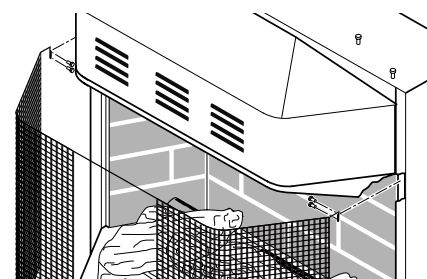
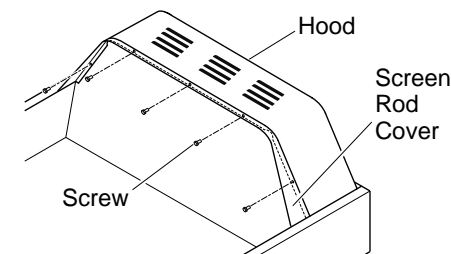
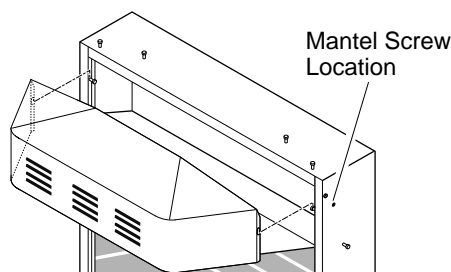

Figure 11 - Removing Screen
Figure 12 - Removing Hood Screws
Figure 13 - Removing Hood
Built-in installation of this fireplace involves installing fireplace into a framed-in enclosure. This makes the front of fireplace flush with wall. If installing a built-in mantel above the fireplace, but you must follow the clearances shown in Figure 11, page 9. Follow the instructions below to install the fireplace in this manner.
2. Remove screen from fireplace by removing screws in each end of screen rod (see Figure 11). Hold screen rod cover while removing five hex head screws underneath hood (see Figure 12). Carefully lift and pull out hood (see Figure 13).
11. Attach remaining two 3" wood screws from hardware pack through openings inside of fireplace sides into the mantel. See Figure 13 for screw hole location.